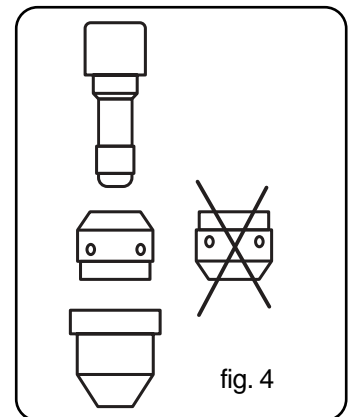

fig. 4
- The diffuser must be replaced when some areas are blackened. Due to its small size, it is very important to position it correctly during assembly (see fig. 4).